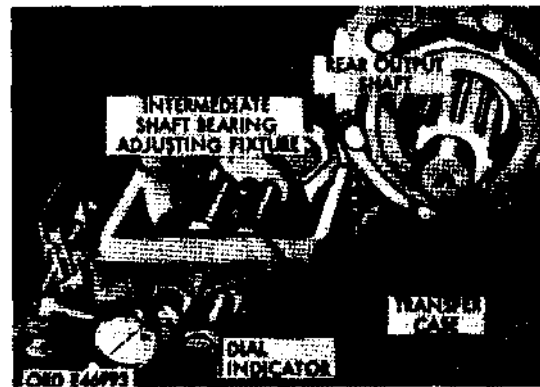

Figure 234. Adjusting intermediate shaft bearings
c. Assemble adjusting fixture (fig. 234), including shim pack, to case with four hex-head capscrews previously removed with bearing cover. Tighten screws alternately and evenly to 20 to 25 lb.-ft. torque.